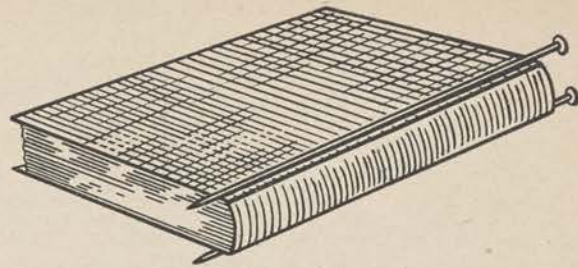

Figure 284.
g. Insert the back end paper in the same way and press the book under a heavy weight until the paste is dry. The spine will be neater if a pair of knitting needles or similar objects is placed as illustrated during the pressing (fig. 284). It is also advisable to put several sheets of scrap paper between the covers and the book during pressing to prevent the dampness of the paste from wrinkling the pages.